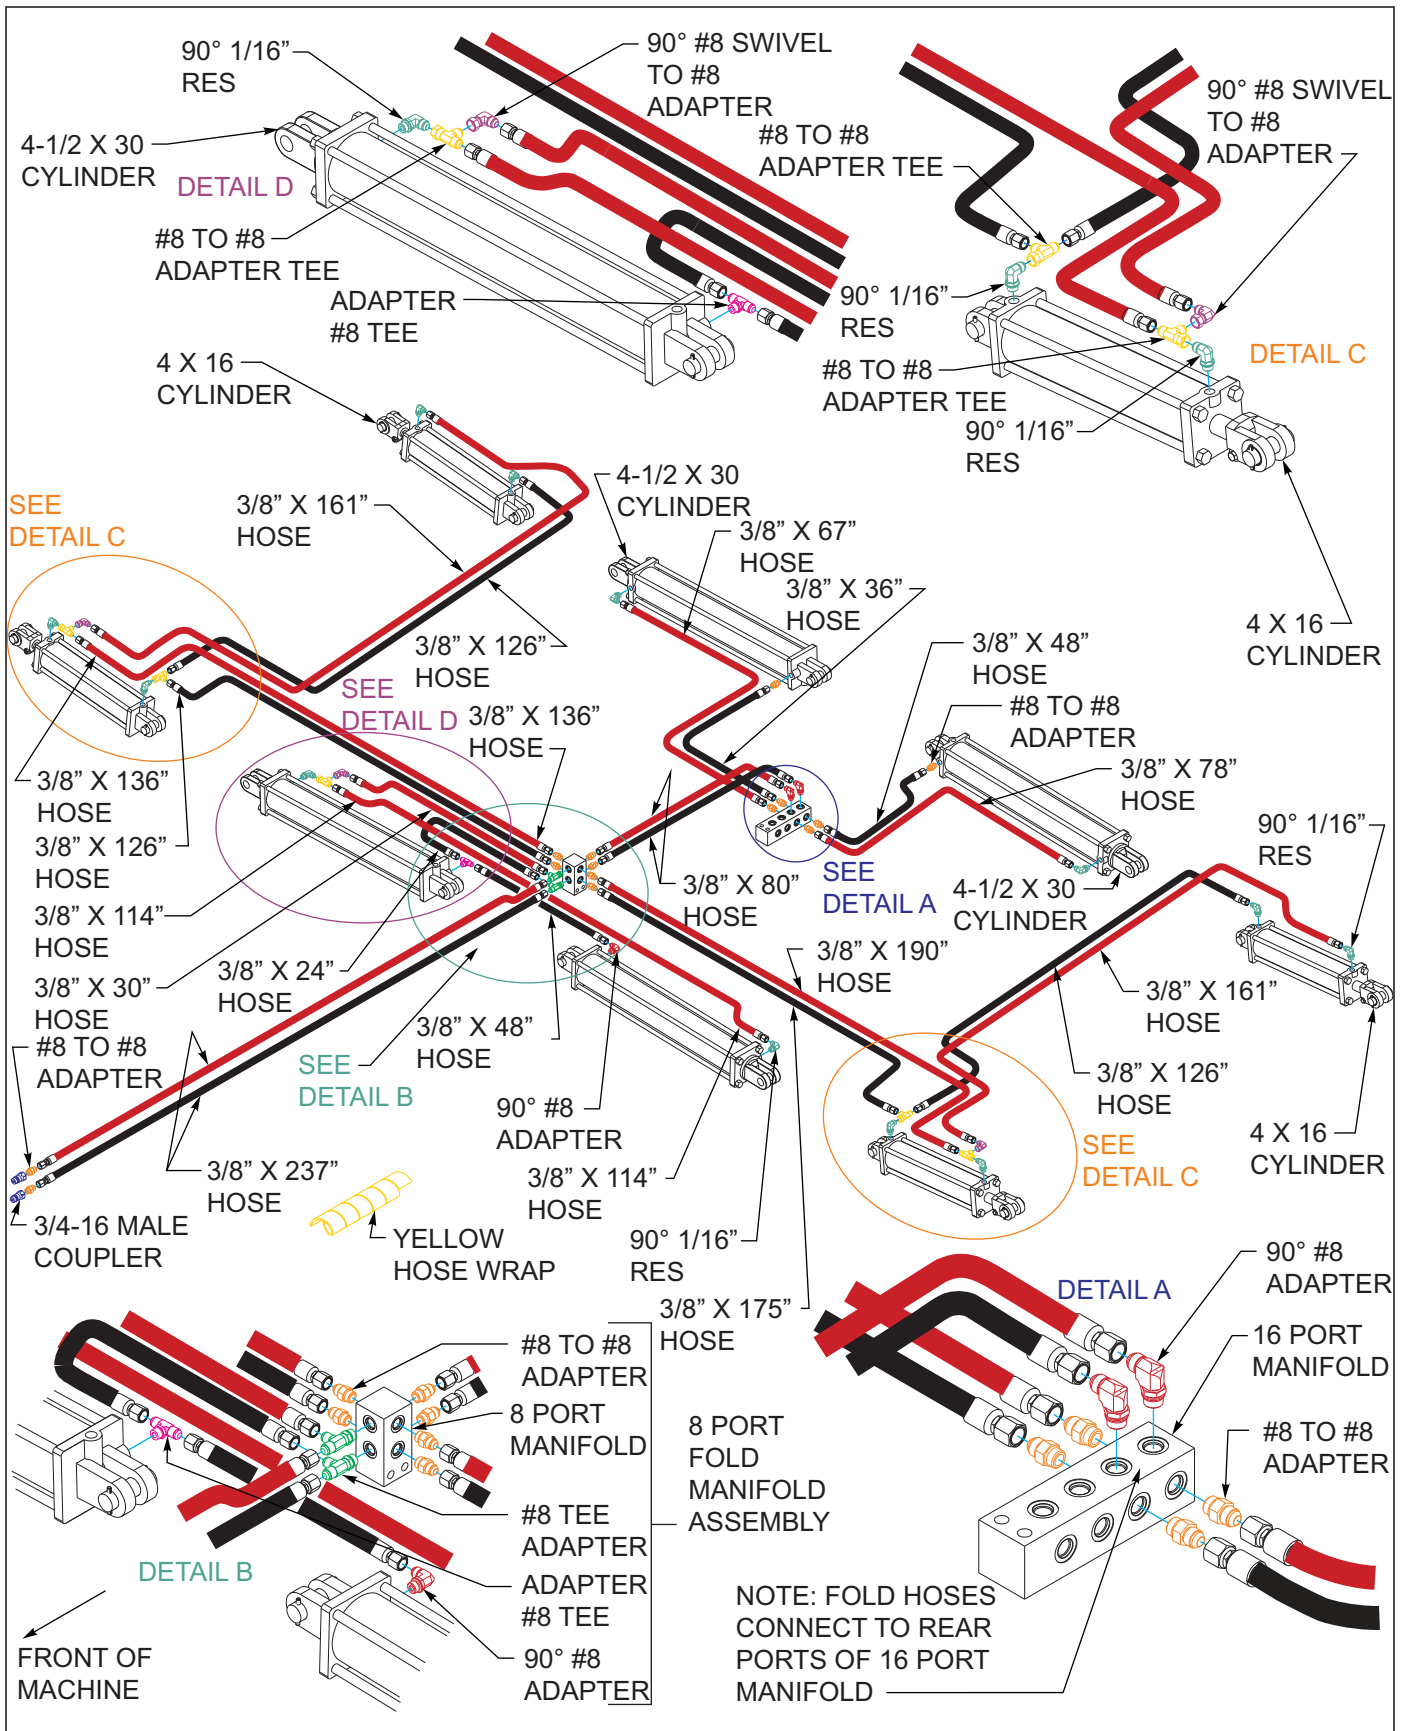

Figure 3-16: Hydraulic Fold Installation 9650-38'-42'
- Models 9650-38'-42'** *See Figure 3-16 through 3-18 for hydraulic fold installation and layout.*